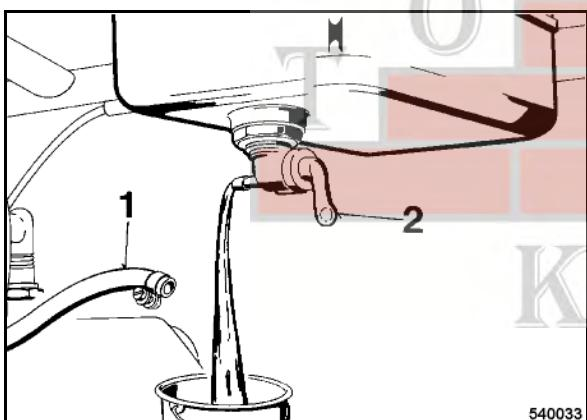

Fig. 53 □
- Disconnect fuel hose (1) (Fig. 53) from fuel cock (2). Open the fuel cock, drain off fuel.
- Unscrew fuel valve (2).